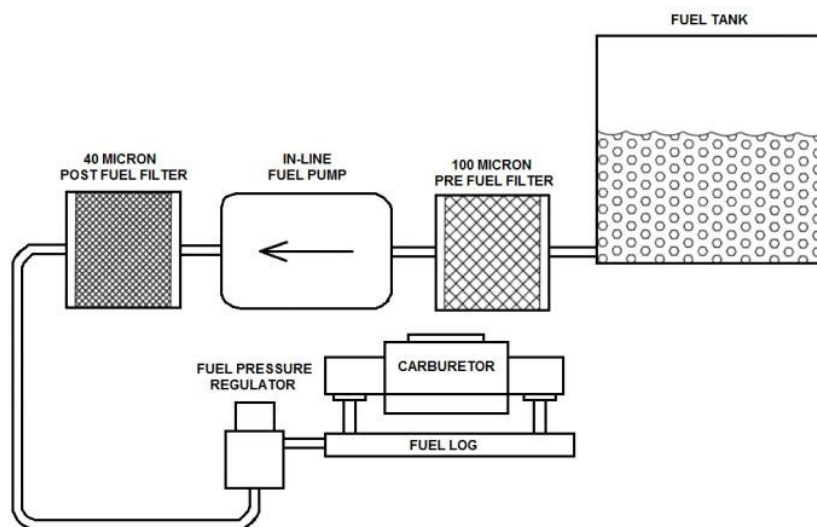

Figure 1
2. The standard regulator has two discharge (out) ports (see Figure 1). In dual carburetor installations, one port can feed each carburetor. With single carbs, plug one port and feed the carburetor from the other. Either may be used. Installations should determine choice. See Figure 1.